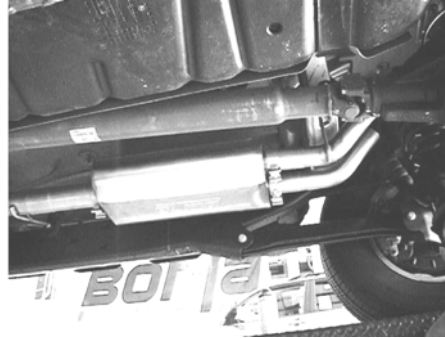

Figure 4
2. Place a clamp over the expanded end of the muffler assembly and place it into position as shown also in figure 4. DO NOT tighten the clamp.